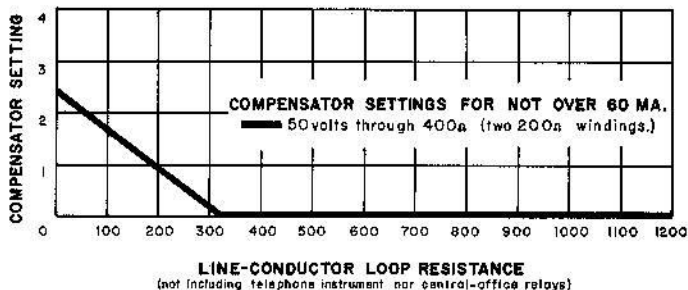

Figure 17.
18.1 Remove volume control knob. Loosen the three base-mounting screws shown in figure 17. Do *not* loosen any other screws on baseplate.